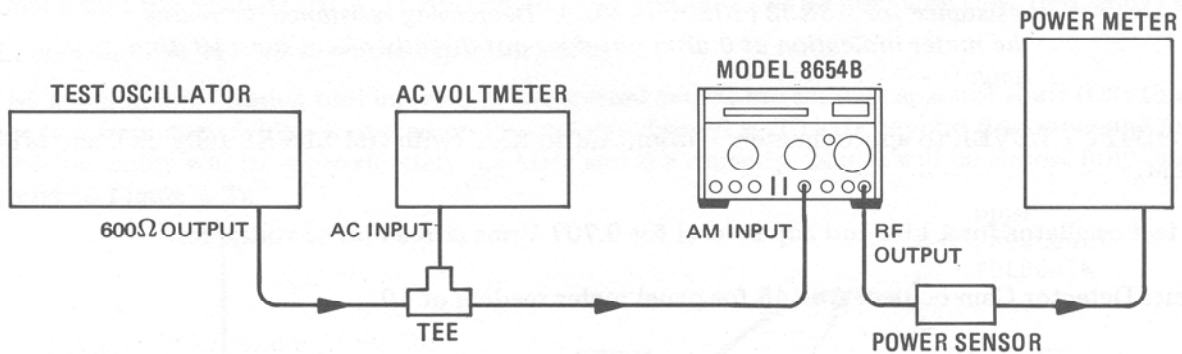

Figure 5-3. Meter Adjustments Setup
- Set LINE switch to ON. Connect equipment as shown in Figure 5-3 after setting Signal Generator controls as follows: